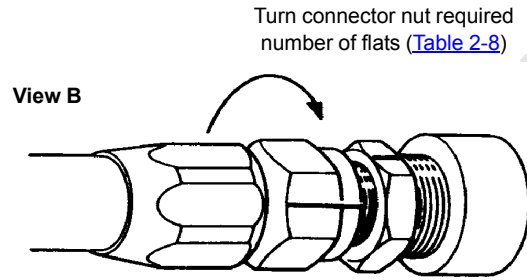

FIGURE 2-8
2. Mark a line (use felt pen or marker) on adapter and extend it onto connector nut (Figure 2-8, View A).
3. Using wrenches, tighten connector nut the number of flats shown in Table 2-8 (Figure 2-8, View B).